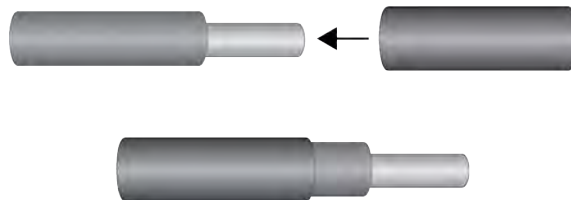

Figure 33. Sliding a Heat-shrink Tube Over the Grounding Wire
2. Slide a heat-shrink tube over the grounding wire. Refer to Figure 33